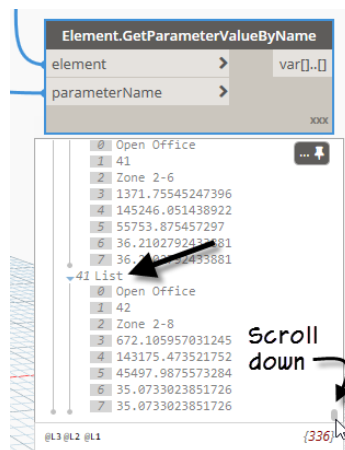

Figure 65
20. Run the graph and study the list that results in the Preview Bubble (see Figure 65).